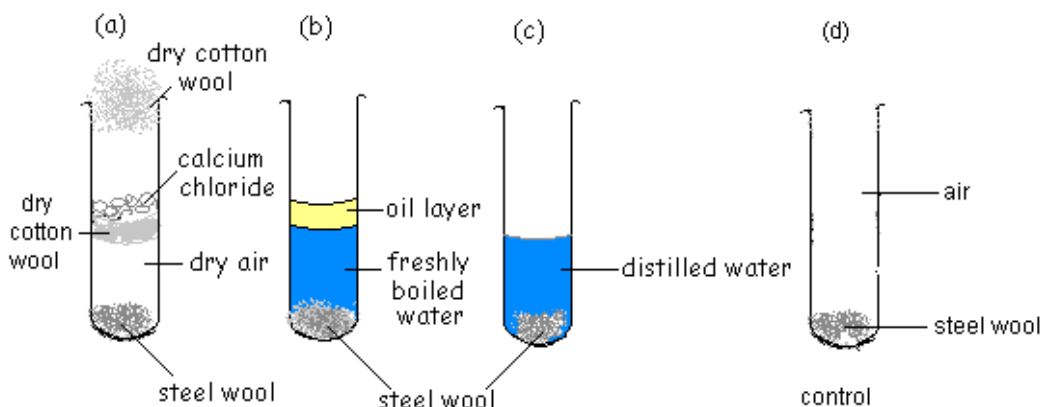

Figure 6.2: Showing investigation of conditions necessary for rusting to occur
1. Place small pieces of steel wool in each of the four test tubes and label them *a*, *b*, *c* and *d* as in Figure 6.2.
6. Place the trimming of galvanized iron sheet on the porcelain tile/flat piece of wood and add lemon juice as shown in Figure 6.2.
7. Allow the experiment setups in Figure 6.1 and Figure 6.2 to stand for one week in a place where they will not be disturbed. What do you notice after one week in test tubes (a), (b), (c), (d) and on the iron sheet? How would you explain your observations? Why is it necessary to study the conditions that promote rusting?